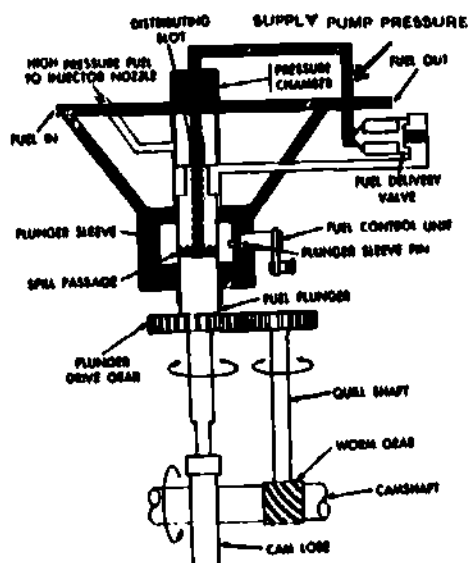

Fig 3-14. Fuel intake phase.
- (1) Fuel intake (Fig 3-14). During the first or fuel intake phase, the plunger is down. Fuel supply pump pressure fills the fuel passages in the hydraulic head up to the fuel delivery valve. Excess fuel and any air leave through the overflow valve and return back to the fuel tank.